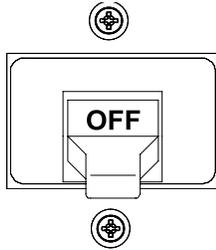

Figure 24. Main Circuit Breaker (OFF)
1. Place **main** circuit breaker (Figure 24) in the **OFF** position.